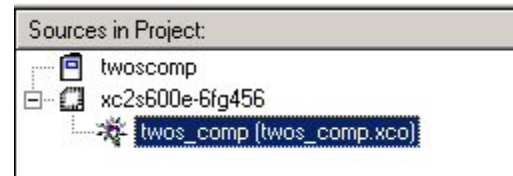

Figure 6: Sources in Project
1. Highlight the generated file in the **Sources in Project** window, but **DO NOT** double-click it. Refer to Figure 6.